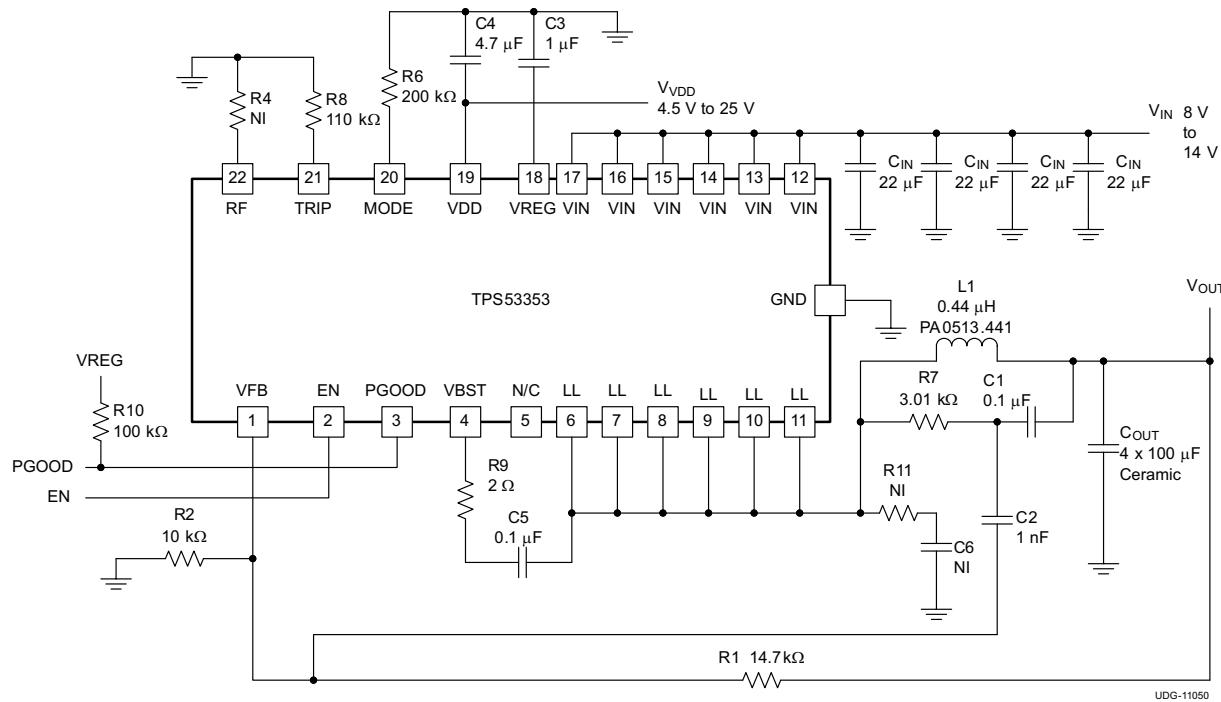

图 8-4. Typical Application Circuit Diagram With Ceramic Output Capacitors
When a ceramic output capacitor is used, the stability criteria in 式 6 cannot be satisfied. The ripple injection approach as shown in 図 8-4 is implemented to increase the ripple on the VFB pin and make the system stable. In addition to the selections made using Steps 1 through Step 5 in セクション 8.2.2.2.1, the ripple injection components must be selected. The C2 value can be fixed at 1 nF. The value of C1 can be selected from 10 nF to 200 nF.
- Connect the ripple injection V_{OUT} signal (V_{OUT} side of the C1 capacitor in FIG 8-4) from the terminal of ceramic output capacitor. The AC coupling capacitor (C2 in FIG 8-4) should be placed near the device, and R7 and C1 can be placed near the power stage.